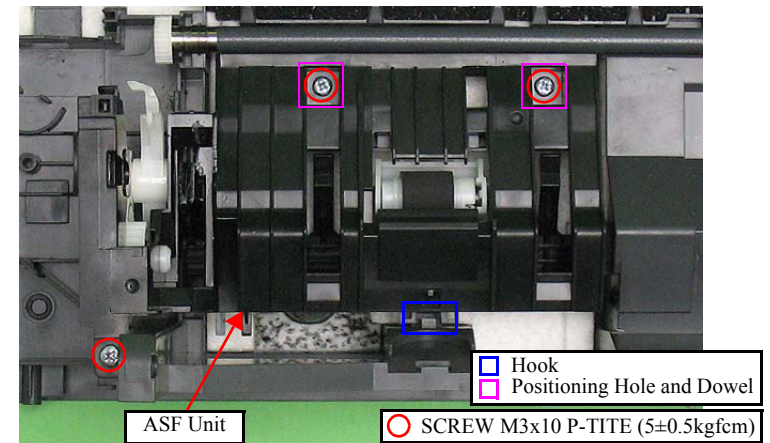

Figure 4-91. Removing the ASF Unit
- When installing the ASF Unit, insert the guide pin of the Lower Housing to the positioning hole of the unit, and secure the unit with the hook of it and the three screws. (See Fig.4-91.)